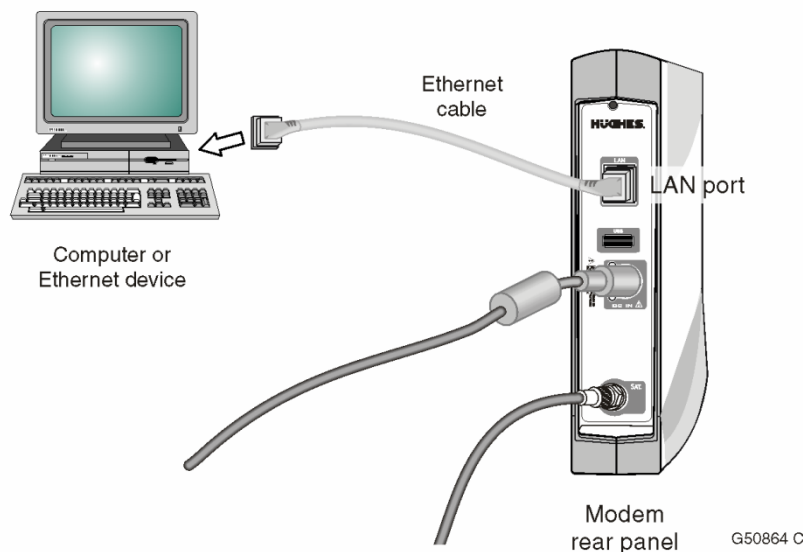

Figure 37: Connecting the Ethernet cable to the customer's computer
1. Use an Ethernet cable to connect the satellite modem to the customer's computer as shown in Figure 37.
- b. Connect the Ethernet cable to the LAN port on the PC or other device as shown in Figure 37.